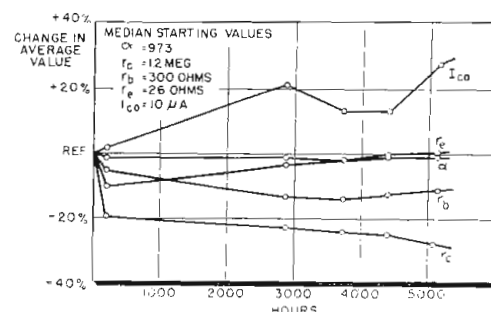

Fig. 13: Early life data, n-p-n transistors
Although not enough information is at present available to make accurate life estimates of junction transistors, some early results are indicated in Fig. 13. Thirty-five development model M1752 units were placed on life test. Two of these units were accidentally destroyed in subsequent testing operations, but none has failed on the life rack, after slightly more than 5,000 hours operation. The changes of average value
of  $\alpha$ ,  $r_c$  and saturation current shown in Fig. 13 are in the direction of poorer performance, while the reduction of average  $r_b$  is an apparent improvement, which may be largely due to the reduction of  $r_c$  as indicated in (10).